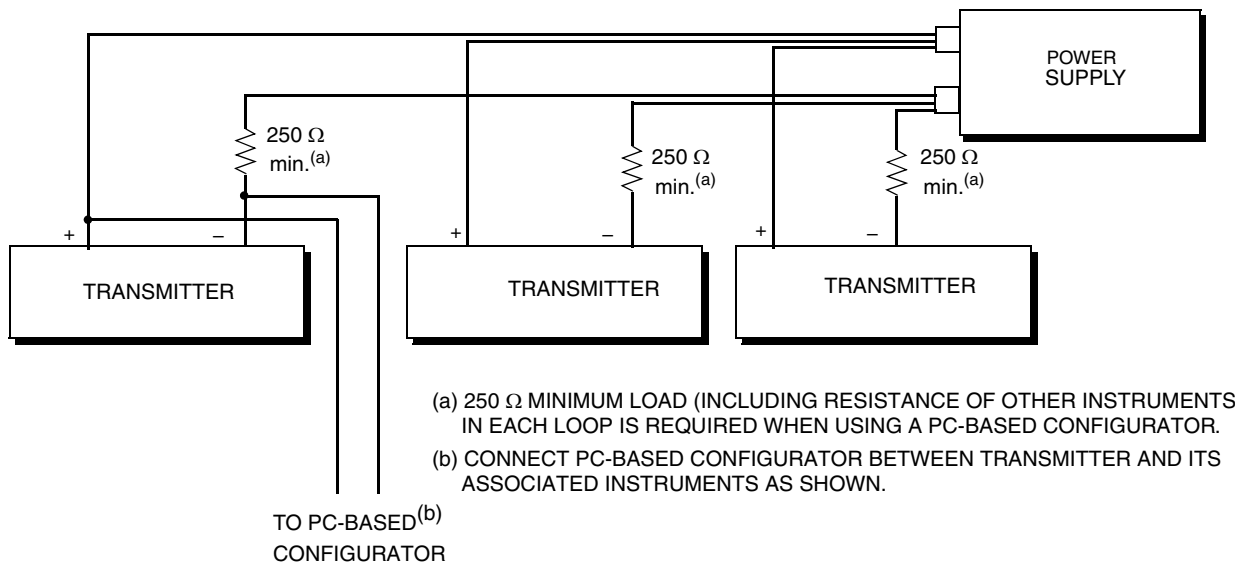

Figure 28. Wiring Several 4 to 20 mA Transmitters to a Common Power Supply
9. If wiring additional transmitters to the same power supply, repeat Steps 1 through 8 for each additional transmitter. The setup with multiple transmitters connected to a single power supply is shown in Figure 28.